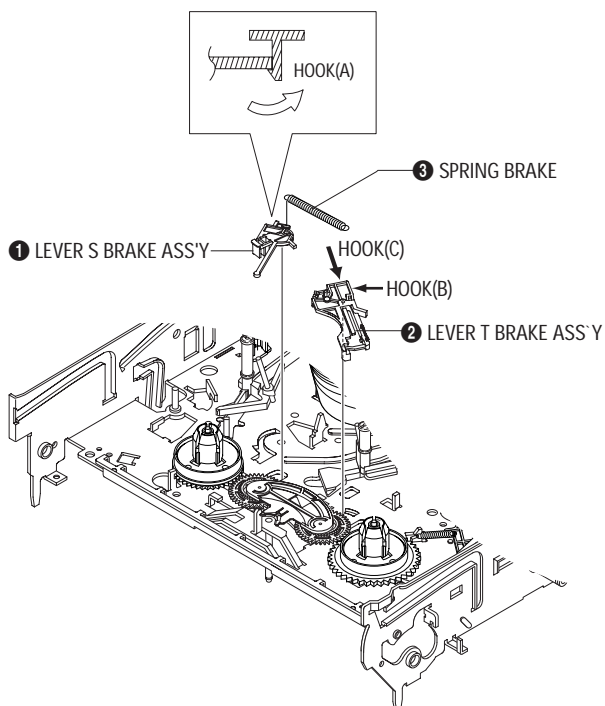

Fig. 5-25 Lever Brake S, T Ass'y Removal
- 1) Remove the Lever Brake S Ass'y (Refer to Fig 5-25).
- 2) Remove the Spring Tension Lever **①**.
- 4) Lift the Lever Tension Ass'y **②** & Band brake Ass'y **③**.
- 1) Release the Hook [A] and the Hook [B], [C] in the direction of arrow as shown in Fig 5-25.
- 2) Lift the Lever S, T Brake Ass'y ❶, ❷ with spring brake ❸.